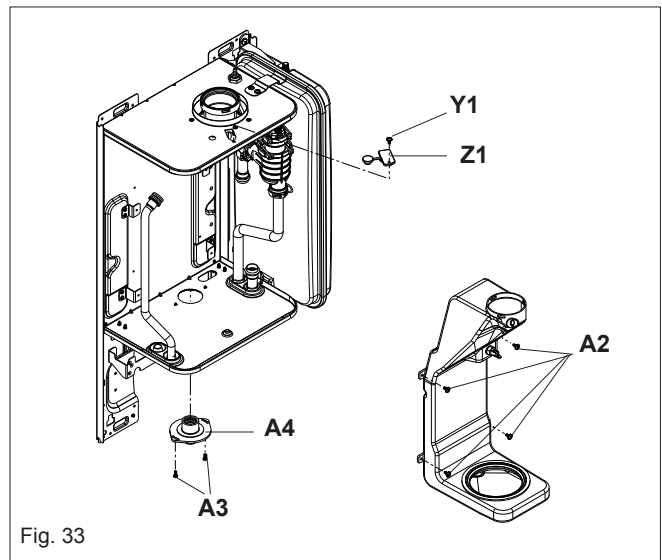

Fig. 33
6.20 FLUE COLLECTOR REMOVAL (fig. 33)
Isolate the appliance from the electrical supply and remove the appliance casing as described in 4.7.1. Restore the electrical supply to the boiler and switch the boiler to the OFF mode. Have access to the printed circuit board, locate and open the closing plug on the dash board (L2), locate and press the CO button (see fig. 36 pos. SW1). Press the button the number of times according the function requirement as par 7.3.1. Set the flue gas analyser to read CO₂, allow the burner to stabilise and insert the probe into the flue analysis test point (Y1-Z1 fig. 33). The appliance will operate in CO₂ mode for approximately 15 minutes.
- Insert the flue gas analyser probe into the flue gas test point (see fig. 33) and compare the values with those shown in section 2 (Nat. Gas) or section 9 (LPG). If different adjust the gas valve according to 7.3.1, 7.3.2, & 7.3.3.